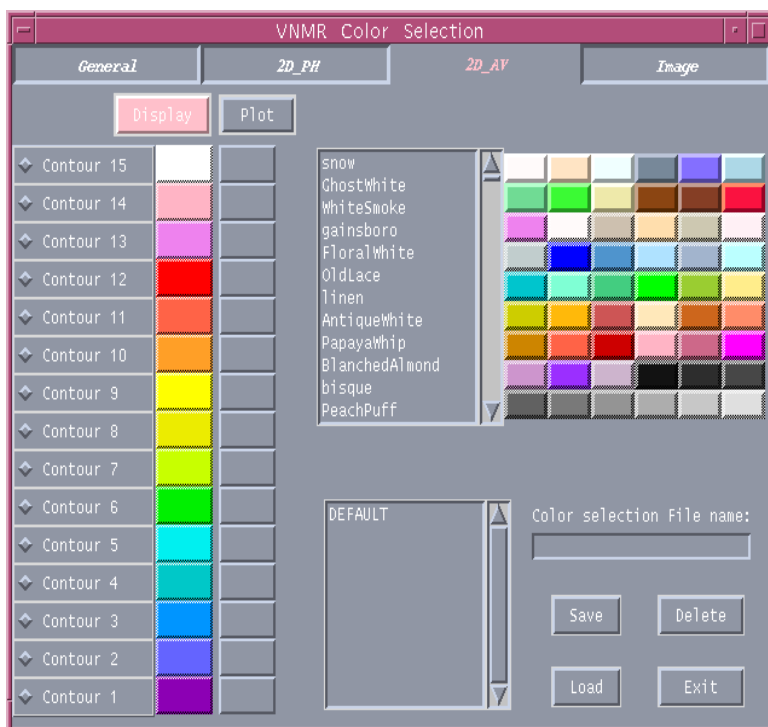

Figure 67. 2D Absolute Value Selection Window
- The buttons in the 2D Absolute Value window for the display, shown in Figure 67, allow you to assign colors to the contours of the display.